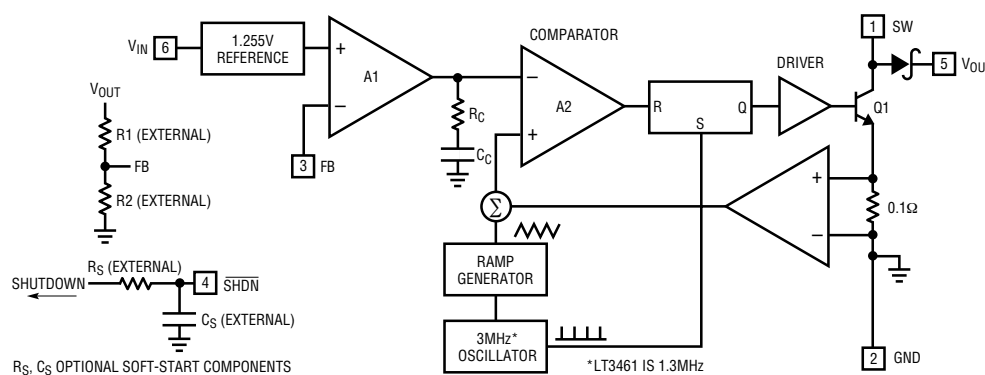

Figure 1. Block Diagram
**SHDN (Pin 4):** Shutdown Pin. Tie to 1.5V or higher to enable device; 0.4V or less to disable device. Also functions as soft-start. Use RC filter (47k, 47nF typ) as shown in Figure 1.
The LT3461/LT3461A uses a constant frequency, current mode control scheme to provide excellent line and load regulation. Operation can be best understood by referring to the block diagram in Figure 1. At the start of each oscillator cycle, the SR latch is set, which turns on the power switch Q1. A voltage proportional to the switch current is added to a stabilizing ramp and the resulting sum is fed into the positive terminal of the PWM comparator A2. When this voltage exceeds the level at the negative input of A2, the SR latch is reset turning off the power switch. The level at the negative input of A2 is set by the error amplifier A1, and is simply an amplified version of the difference between the feedback voltage and the reference voltage of 1.255V. In this manner, the error amplifier sets the correct peak current level to keep the output in regulation. If the error amplifier's output increases, more current is delivered to the output; if it decreases, less current is delivered.